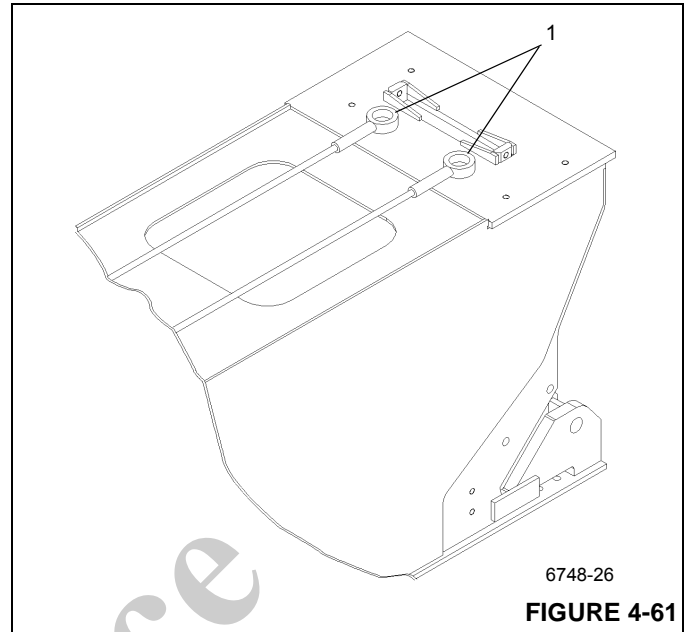

FIGURE 4-61
2. Attach both mid syncro cable anchor ends (Figure 4-61, 1) with cap screws and bushings to the base end of the Outer Mid section.